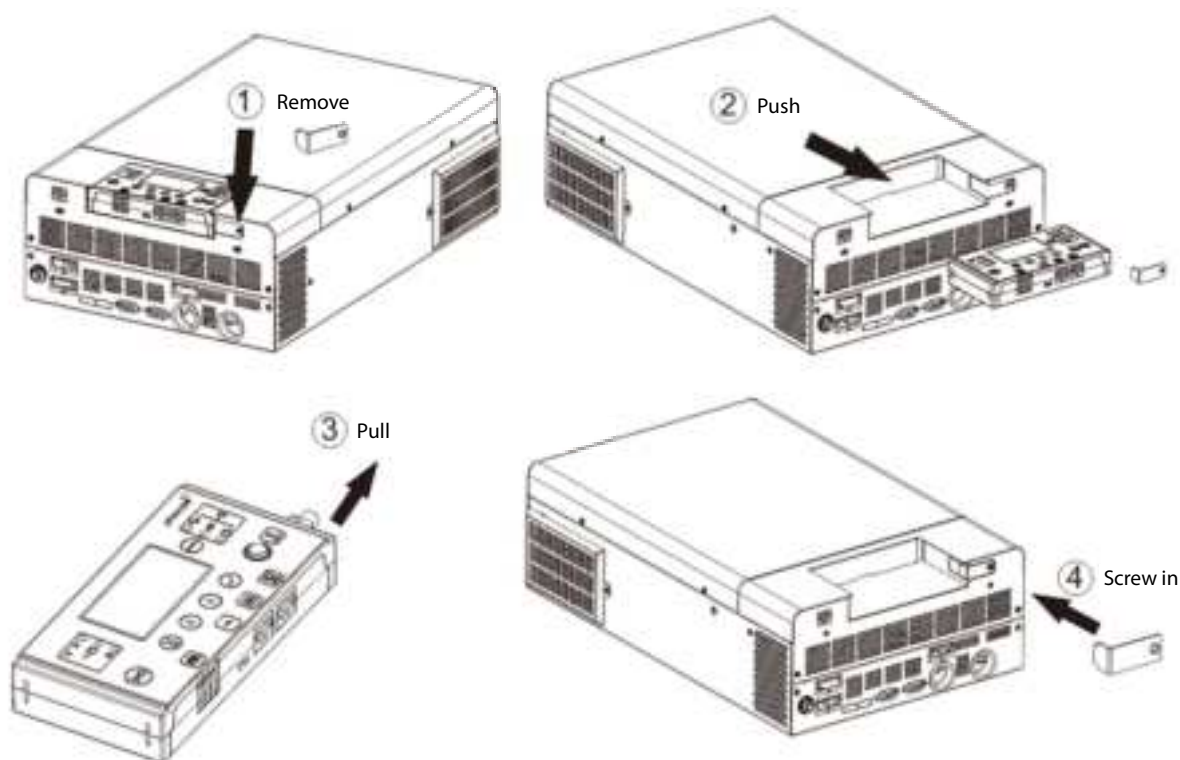

Fig. 11: Remote display removal
1. Remove the screw holding the bracket on the bottom of the display module (**Fig. 11** → ①) and push down the display unit from the case slightly while removing the metal bracket.
2. Keep pushing the display module down, taking care not to damage the connected cable (**Fig. 11** → ②).
3. Remove the cable connected to the display module (**Fig. 11** → ③).
4. Screw the bracket removed in **Fig. 11** → ① back in place (**Fig. 11** → ④).